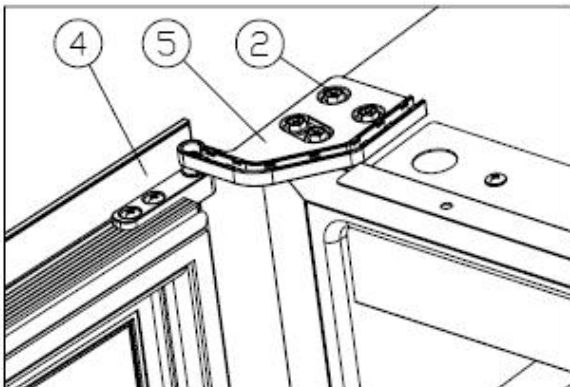

Figure 6
- ✧ Turn the door④ 180 degrees, and insert the right lower hinge⑤, screw tight M5*16 screws②.[Figure 6]Door reversing is finished.